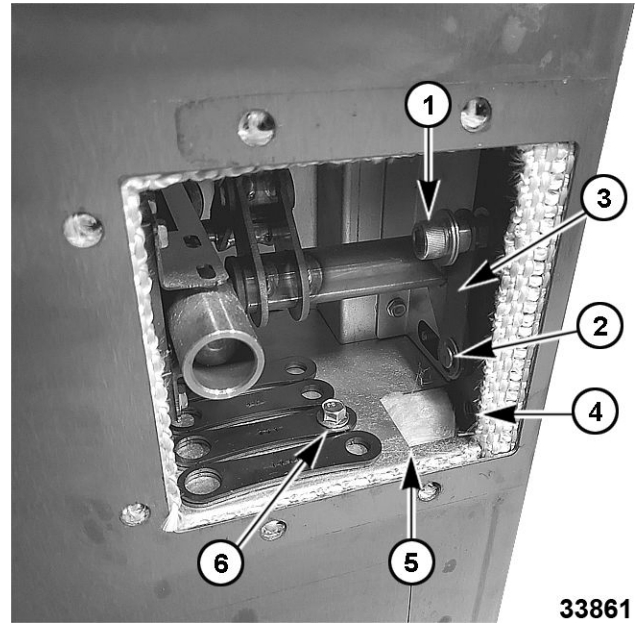

Fig. 90
NOTE: To prevent hardware from dropping into the inside of the door, cover the open space (5, Fig. 90) under latch arms.
- B. Remove 3/8" bolt (1, Fig. 90). DO NOT discard the tube, bolt, or washer.
- C. Remove E-clip and pin (2, Fig. 90). DO NOT discard the E-clip or Pin.
- D. Replace two latch arms (3, Fig. 90) with parts supplied. Reassemble inner mechanism, making sure linkage arms are located in the up position. Place unused arms in latch box and secure with 1/4-20 x 3/4" hex head serrated flange screw (6, Fig. 90). Reattach inner door handle.
NOTE: For left hand hinge, bolt and arms must be flipped and mounted to left-hand hinge hole (4, Fig. 90). Place unused arms in latch box and secure with 1/4-20 x 3/4" hex head serrated flange screw (6, Fig. 90).